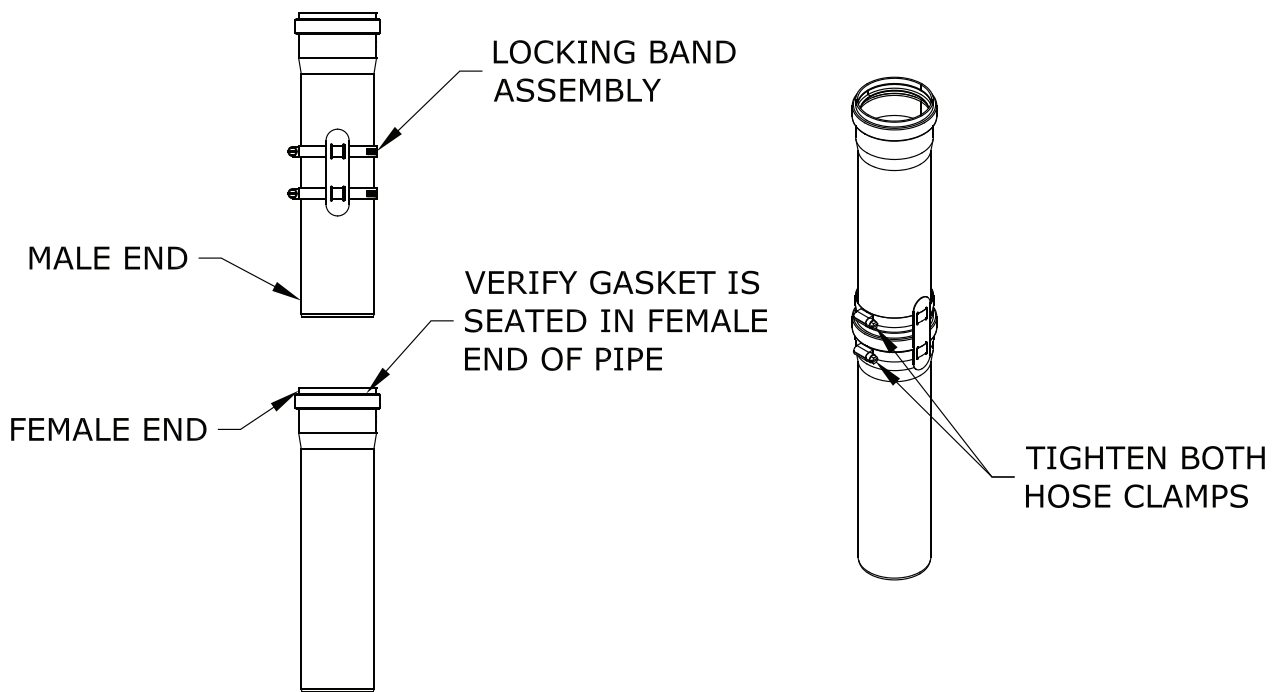

Figure 7.41: Polyflue Pipe Locking Band Installation
- c. For each joint, verify that the gasket is evenly seated in the bell (female) end of the pipe. Lubricate this gasket with mild soapy water. Slide a Pipe Locking Band over the male end of the pipe to be joined as shown in Figure 7.41. Push the male end of the next section of pipe into the bell until it bottoms out, then back out 1/8—1/4" to provide room for thermal expansion. Slide pipe locking band over the female end of the connections and tighten both hose clamps.